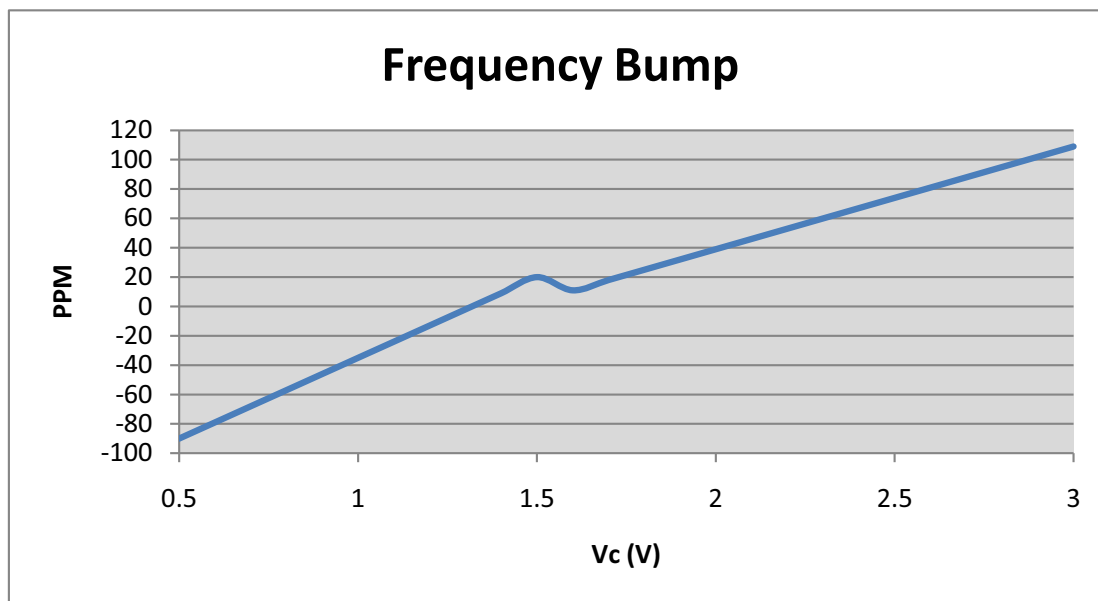

Figure 2. Frequency Bump due to “Pulling” of Crystal
3. Mechanical third overtone and the location of associated harmonic spurs. This can produce a highly undesirable VCXO linearity curve as shown in Figure 2.